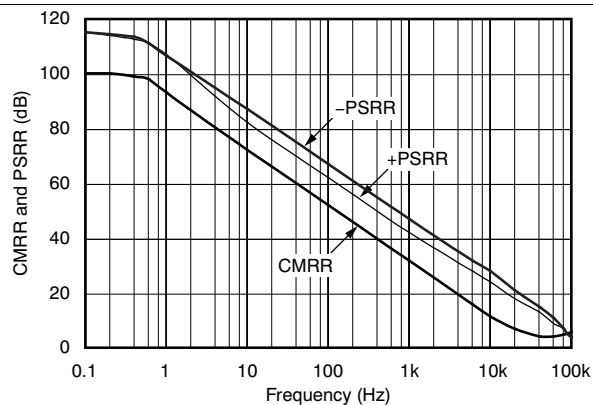

Figure 2. Common-Mode and Power-Supply Rejection Ratio vs Frequency
(1) See typical characteristic graph, *Common-Mode Rejection Ratio vs Frequency* (Figure 2).